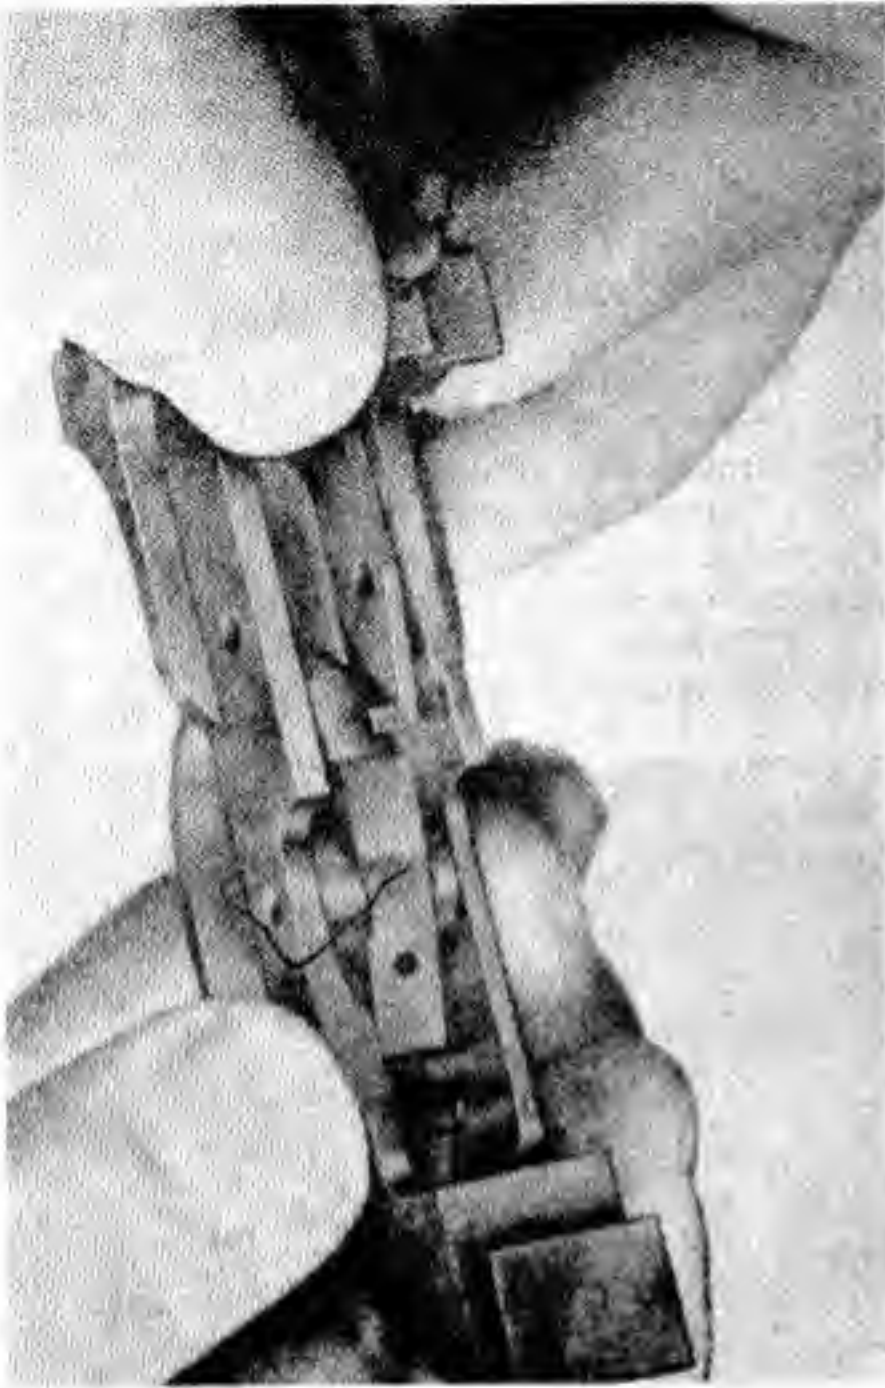
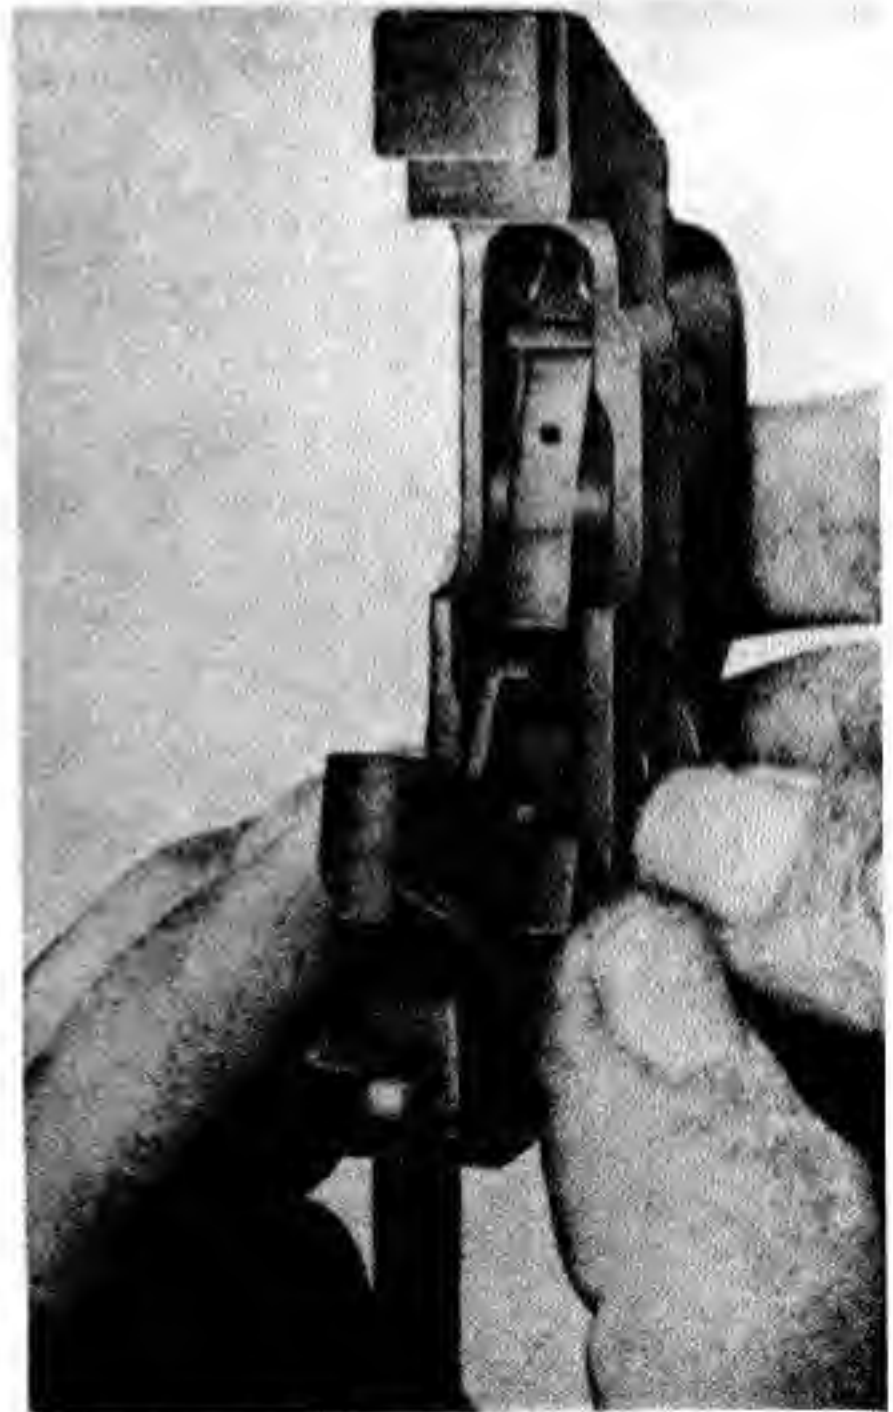

Figure 30. Replacing the disconnecter.
Figure 31. Replacing the hammer.
f. Replace the disconnecter, making sure that its rear end is on top of the sear (Fig. 30). Replace the hammer with its long end up and curving to the rear (Fig. 31). Engage the sear notch of the hammer with the sear nose and rotate the hammer